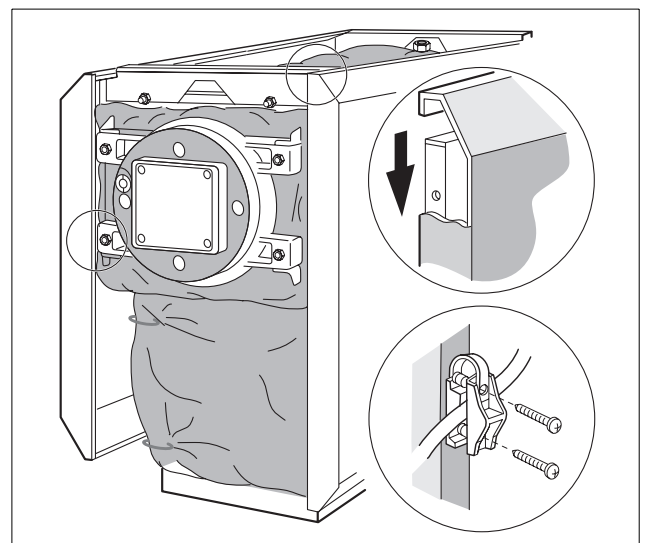

Fig. 10 Hanging of side panels and securing of burner cable.
- Slightly lift up the top side jacket panels and hang over the edge of the side rails (Fig. 10).
- Push the edges of the insulation blankets behind the side panels (Fig. 10).
- Secure strain relief for the burner cable with two studs into the holes on the left or right side jacket panels. Allow enough length for burner cable, place cable in strain relief, close relief clip and secure strain relief with two screws (Fig. 10).